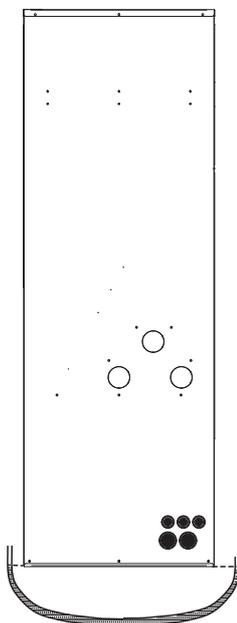

Figure 1
- 1 Keep the unit level. Use a transparent hose to observe the water level (principle of communicating vessels) and verify the levelness of the unit in the depth direction. (Figure 1)